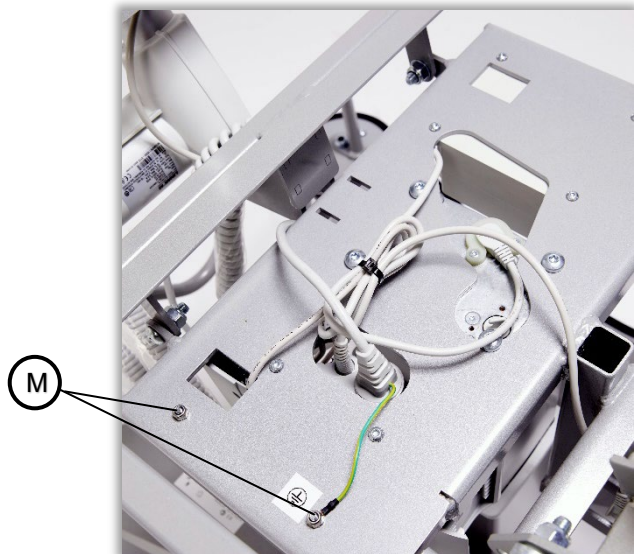

FIGURE 11. TOP FRAME
7. Undo the two bolts (**M**) located on the right side of the top frame, to allow the removal of the MJB junction box (**Figure 11**).